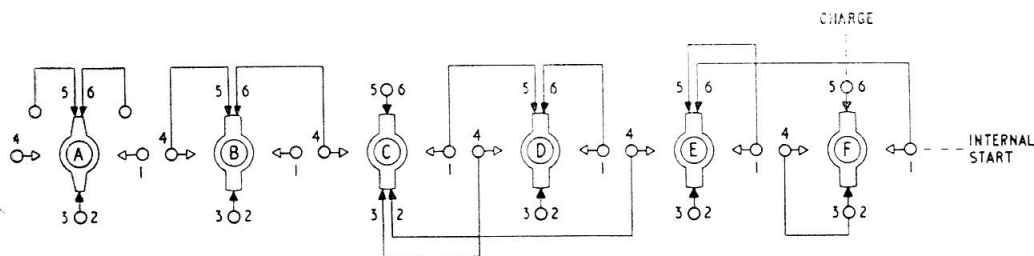

Fig. 2. Contact arrangement
9. Switch section 'A' is used in the battery control circuit and the centre contact assembly is of different construction to those in other sections. Consequently during change-over, contacts 2-3 and 5-6 in section 'A' "break" before similar contacts in other sections are broken, and "make" after the other contacts are made. A contact arrangement of the switch is shown in fig. 2.